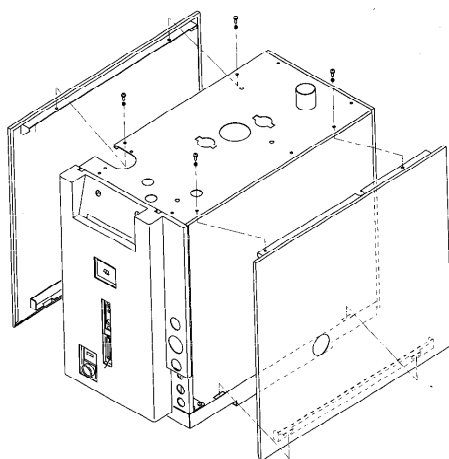

Fig. 8.1 How to remove pump covers
- (1) Stop the pump and remove the outer side cover on the pump. (See Fig. 8.1)